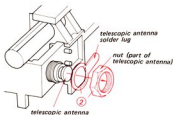

Fig. 2-17.
- ① Perform all steps outlined in 2-10 main circuit board removal on page 8.
- ② Remove nut and telescopic antenna solder lug from telescopic antenna as shown in Fig. 2-17 below.